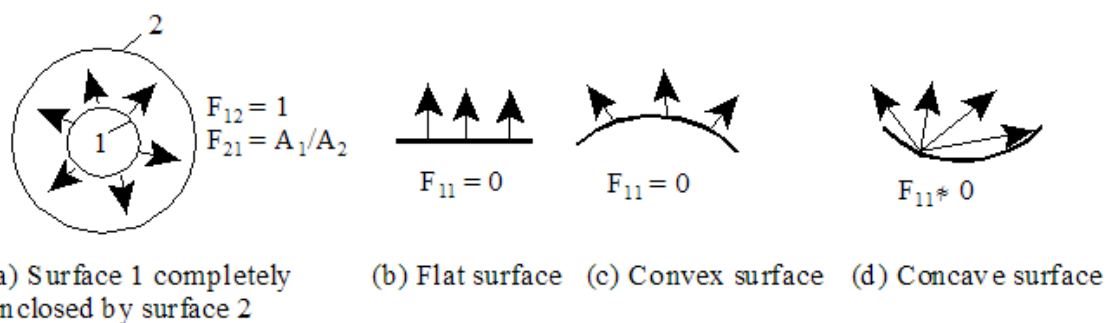

Fig. 13.14 View factors for a few surfaces
- 3) When a convex surface 1 is completely enclosed by another surface 2, it is clear from Fig. 13.14(a) that all of the radiant energy emitted by surface 1 is intercepted by the enclosing surface 2. Therefore, **view factor of surface 1 w.r.t. surface 2 is equal to unity, i.e. $F_{12} = 1$** . And, the view factor of surface 2 w.r.t. surface 1 is then easily calculated by applying the reciprocity relation, i.e. $A_1 \cdot 1 = A_2 \cdot F_{21}$, or, $F_{21} = A_1/A_2$.
- 4) Radiation emitted from a flat surface never falls directly on that surface (see Fig. 13.14 (b)), **i.e. View factor of a flat surface w.r.t. itself is equal to zero, i.e. $F_{11} = 0$** . This is valid for a convex surface too, as shown in Fig. 13.14(c).
- 5) For a concave surface, it is clear from Fig. 13.14(d) that F_{11} is not equal to zero since some fraction of radiation emitted by a concave surface does fall on that surface directly.